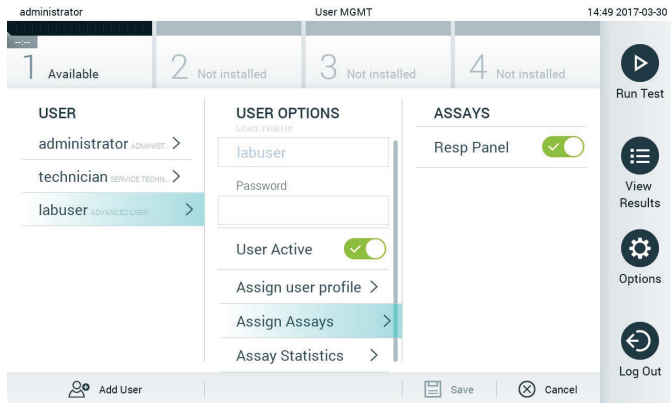

Figure 50. Assigning assays to users.
- **Assign Assays:** Allows defining the assays from the assay database that the user is permitted to run. Select the assays from the list on the right of the content area (Figure 50, next page).